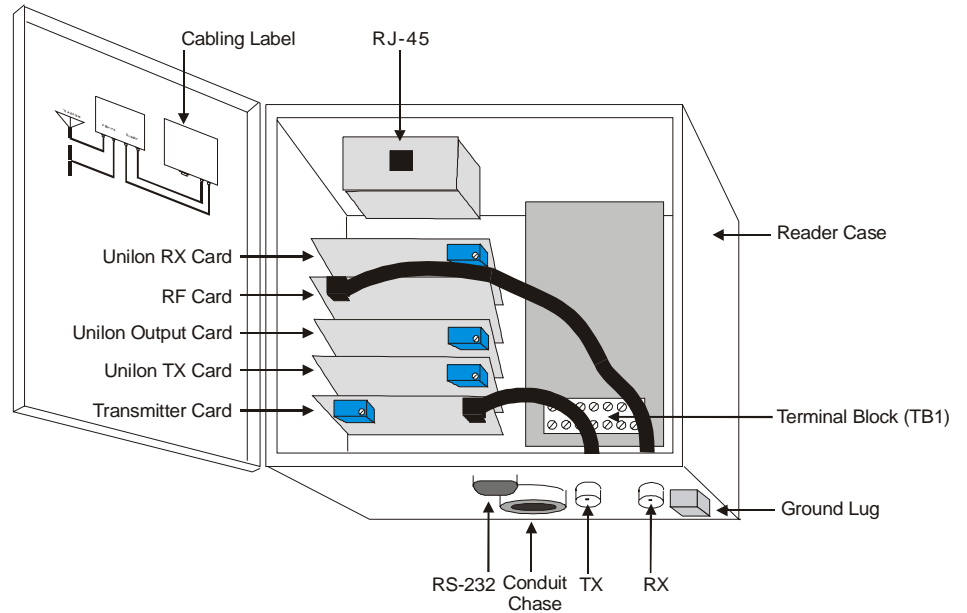
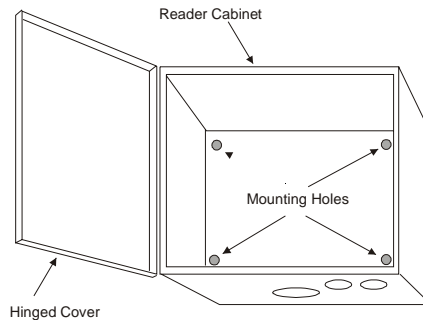

Figure 6 Reader – internal view
Figure 7 Reader mounting holes
The Reader (Figure 6) in a typical AXCESS system consists of the following:
Step 2: Mount the Reader securely with the cover hinge on the left and external connectors on the bottom (Figure 6). Screw holes are provided inside the cabinet for mounting to a wall (Figure 7).
- Step 2:** Open the Reader case and disconnect the BNC connector running from the Transmitter card at the TX connector (Figure 6). This will give you access to the terminal block underneath.